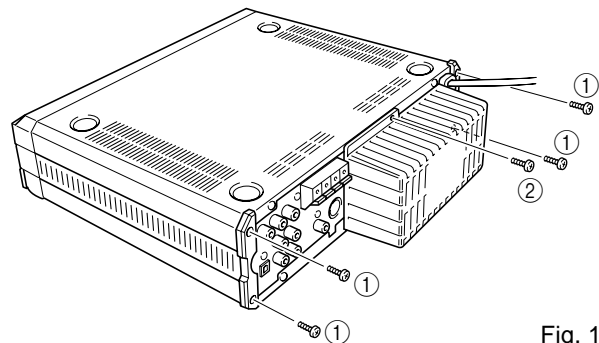
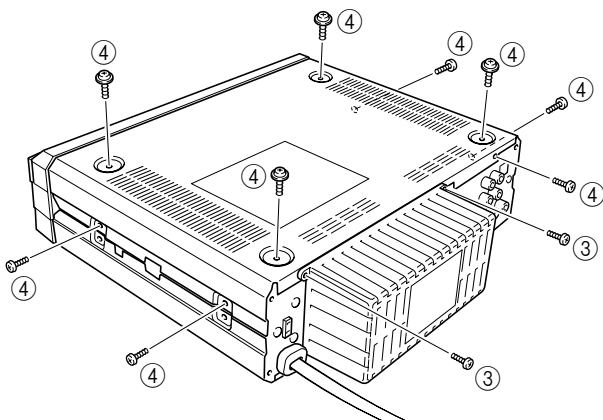

Fig. 1
Fig. 2
- a. Remove 4 screws (①). (Fig. 1)
- a. Remove the screw (②) in Fig. 1, and 2 screws (③) in Fig. 2 to remove the heat sink cover.
- b. Remove 9 screws (④), and the Bottom Cover can be removed rearward. (Fig. 2)